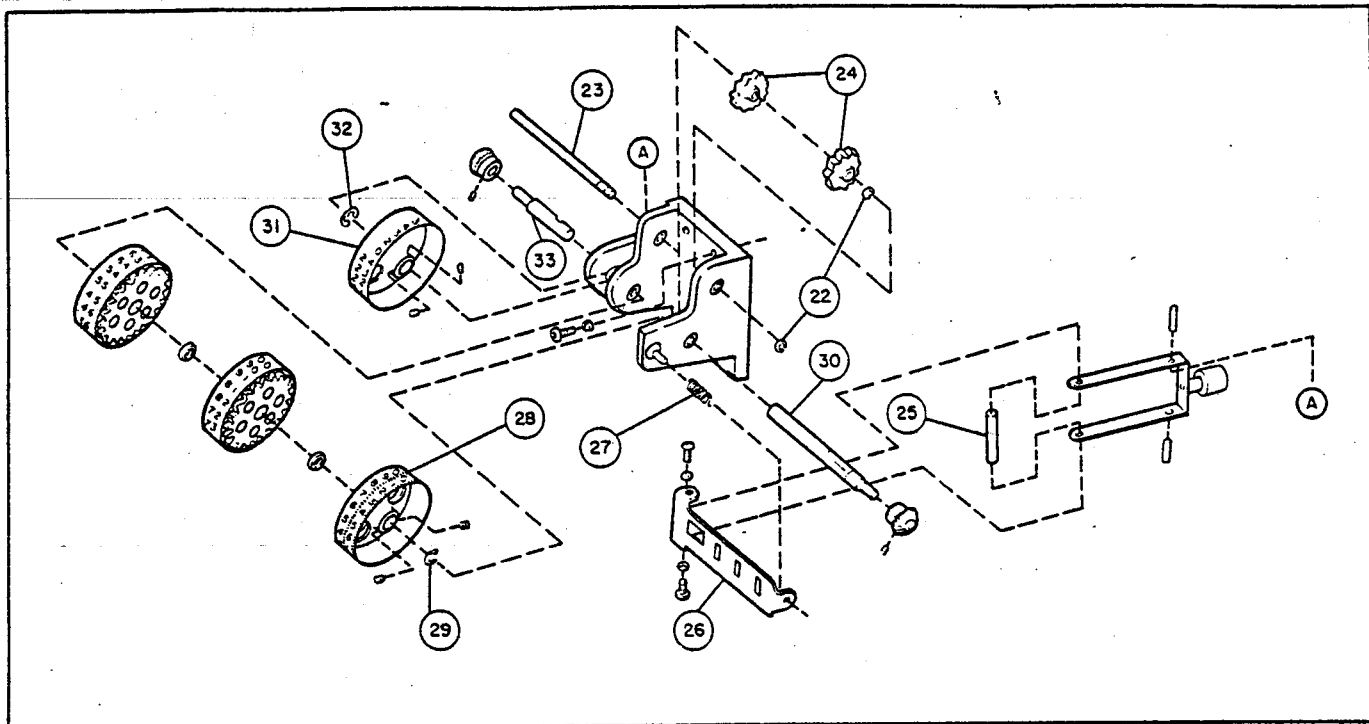

Figure 3-11. MEGACYCLES Frequency Indicator, Exploded View
- b. Remove retaining rings (item 22).
- c. Remove shaft and counter gears (items 23 and 24).
- d. Remove screws and washers securing mask actuating pin (item 25).
- e. Remove sliding mask and spring (items 26 and 27).
- f. Loosen setscrews of the fourth counter wheel (item 28).
- g. Remove retaining ring (item 29).
- h. Remove shaft (item 30), allowing the three right-hand counter wheels and associated hardware to be removed. (See figure 3-11.)
- i. Loosen setscrews of left-hand counter wheel (item 31) and remove retaining ring (item 32).
- j. Remove shaft (item 33).
- k. Remove left-hand counter wheel (item 31) and associated hardware.